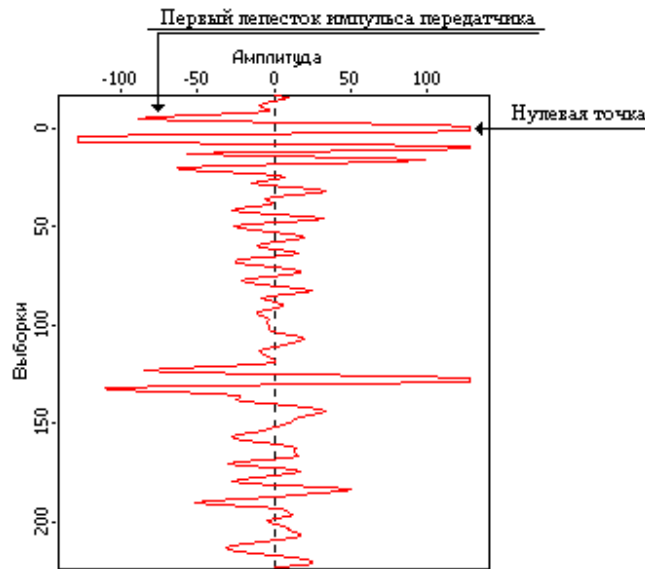

Fig. 4.1. Example of displaying the trace
4. **Zero point** – Trace sample corresponding to the transmitter's emission maximum instant. It is this very sample whereto the scale numbering zero falls along traces, i.e. the delay time of a reflected signal should be counted from this sample. As it was mentioned earlier, an impulse of the transmitter is approximately a 1.5-cycle (three-lobe) signal. It means that the zero point should be aligned with the middle of the **second** lobe of the impulse of the transmitter. The method of adjustment of the zero point is described in chapter 10 of this manual. This is a very important parameter taken into account in the calculation of signal time delays to determine the depth of the target location in the probed medium. Examples of the location of the zero point are shown on Fig. 4.1, 4.2 and 4.3.